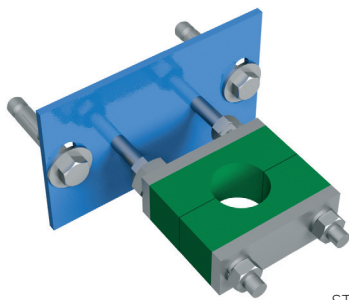

Fig. 8
- We recommend a stem guide bracket every 1.5 m (Fig. 8)